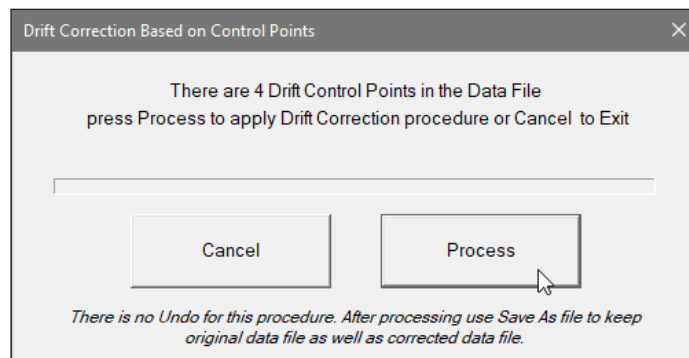

Figure 4.13 Drift Correction... dialog
2. The Drift Correction dialog (Figure 4.13) shows the number of available Control Points. A warning at the bottom notes that there is no Undo function.